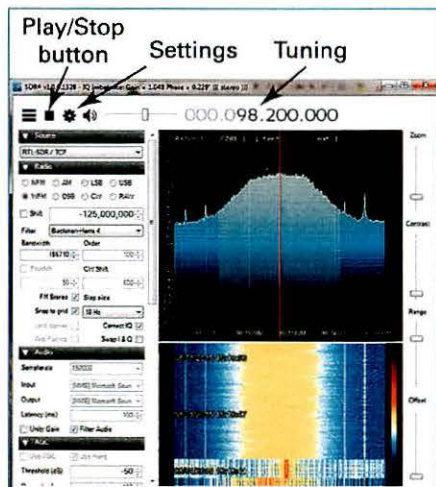

FIGURE 5: SDR Sharp main screen with key controls identified.
8. Open *SDR Sharp* on your PC and select RTL-SDR/TCP as the Source in the top left of the screen (Figure 5).